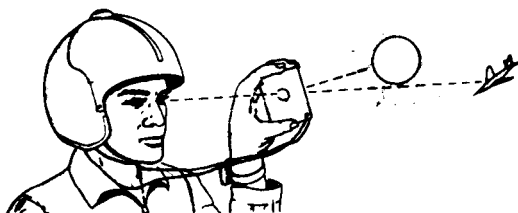

Figure 2-6. Using the signaling mirror.
- c. Hold the mirror close to the eye and slowly turn it until the bright spot is on the target (fig. 2-6).